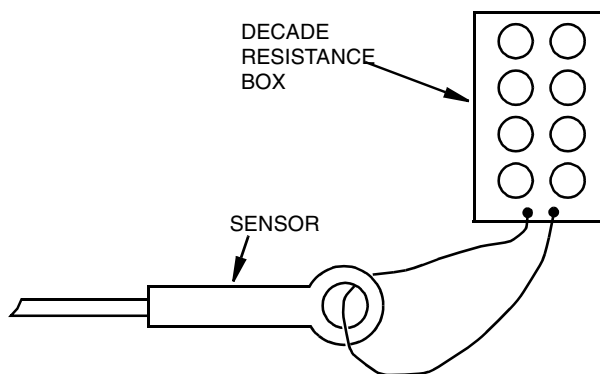

Figure 13. Connection of Loop Resistance
3. Route resistance loop from a decade resistance box through sensor as shown in Figure 13.